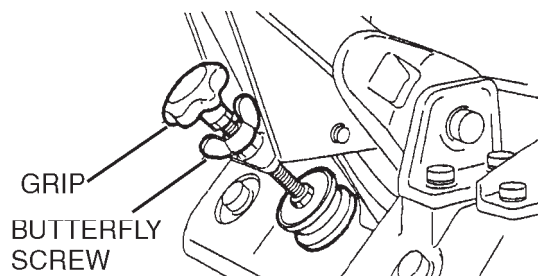

Figure 11. Handle Adjustment
1. Loosen the butterfly screw (Figure 11).